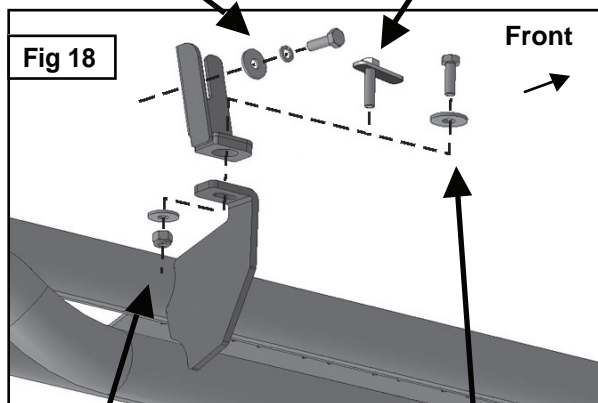

Fig 18
Models with a weld-nut: Slide the Bracket over the weld-nut, (Figure 12). Insert (1) 8mm x 40mm Hex Bolt with (1) 8mm x 28mm Large Flat Washer down through the threaded hole in the weld nut and Upper Bracket, (Figure 18). Tighten all hardware attaching the Upper Bracket only at this time.
Line up the front mounting tab on the Side Armor with the Upper Bracket. Attach the mounting tab to the Hex Bolt or Bolt Plate in the bottom of the body panel with (1) 8mm x 24mm Flat Washer and (1) 8mm Nylon Lock Nut, (Figure 18). Do not tighten hardware at this time.